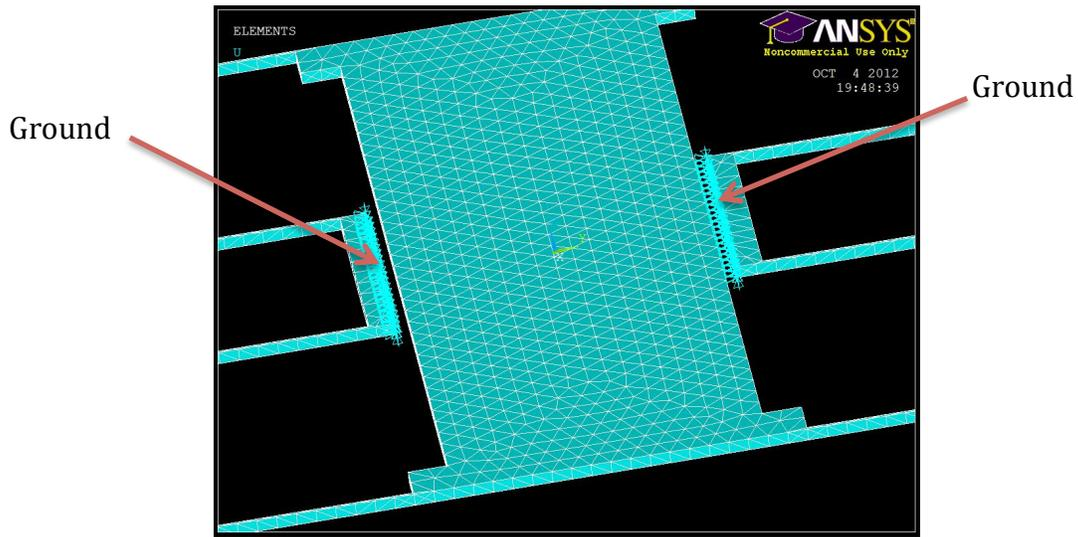

Fig. 5: Ground Points
- Ground is along the surface that faces the largest area. (See Fig. 5)